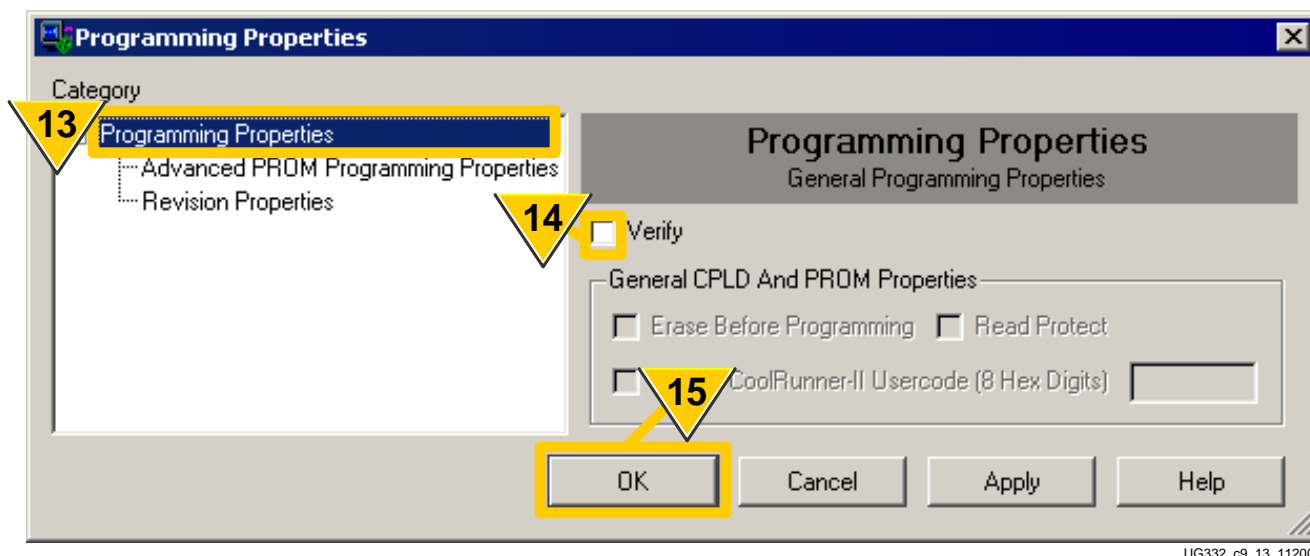

Figure 9-15: FPGA Programming Options
13. The **Programming Properties** dialog box appears, as shown in Figure 9-15.